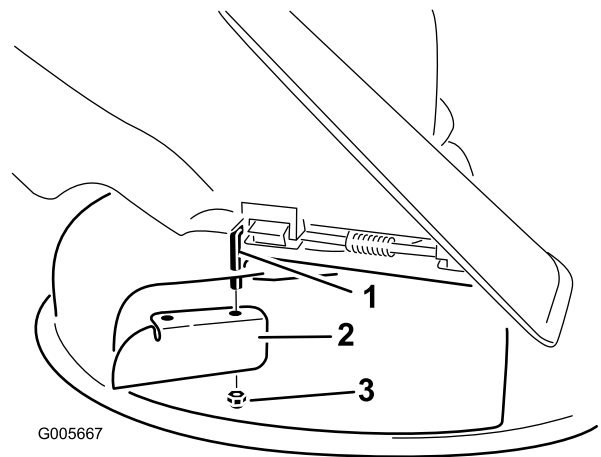

Figure 15
7. Install the cutoff baffle to the exposed pivot rod (Figure 15).
3. Remove the cutoff baffle from the mower deck (Figure 15).